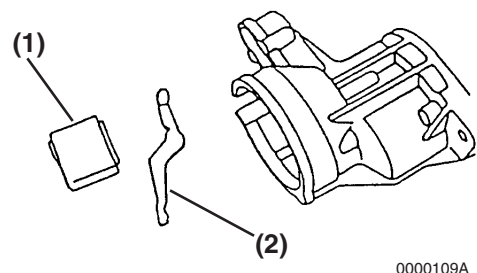

Figure 11-8
- Disassemble the dust cover (**Figure 11-8, (3)**) and shift the lever (**Figure 11-8, (4)**) from the gear housing.